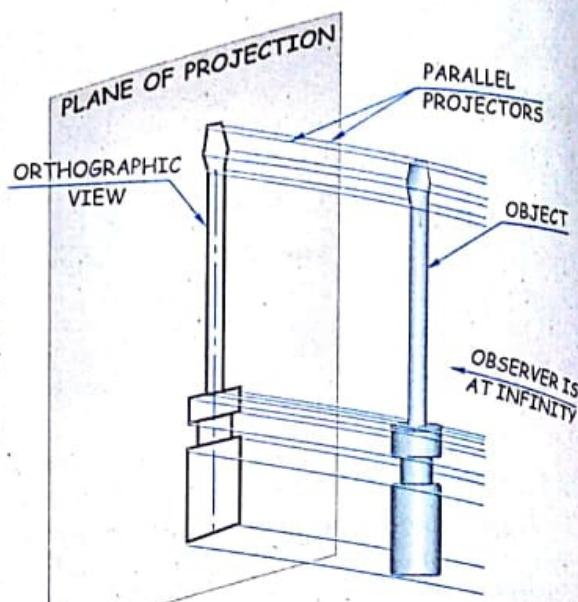

FIG. 3.2
1. Orthographic projection. Refer figure 3.2.